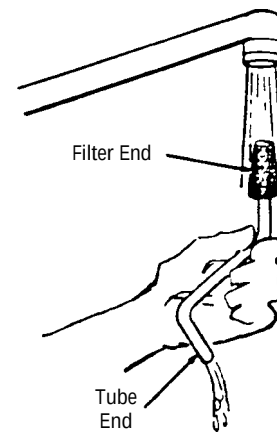

Figure 7-10
3. If filter appears clogged or coated with debris, clean by reverse flushing with water (Figure 7-10). If filter cannot be effectively cleaned, (i.e., it remains clogged) replace the filter (P-129357-645).